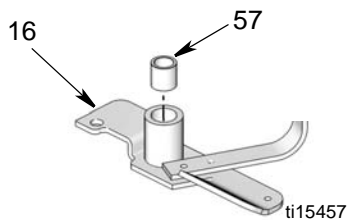

FIG. 14
b. Remove bearing (57) in paddle (16) as shown in FIG. 14. Be careful that bearing does not fall into the G3 pump. Discard bearing (57).